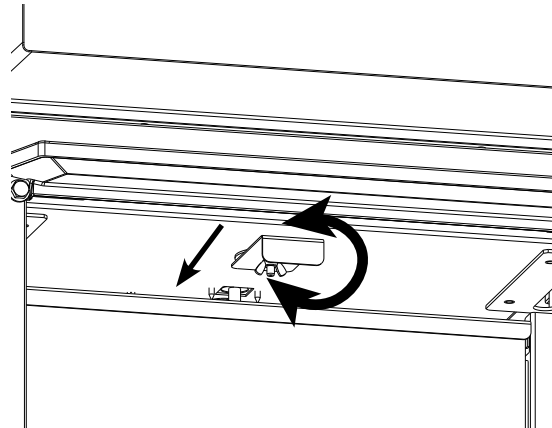

Figure 7.1. Rotate the Air Shutter Handle 180° and push Air Shutter FULLY back to disengage burner from injector.
3. Open the Controls Compartment under the firebox. If opening the Controls Compartment for the first time, loosen the Air Shutter wing nut located below the firebox floor and rotate the handle 180°. Push the Air Shutter handle as far back as it will travel. See fig. 7.1.